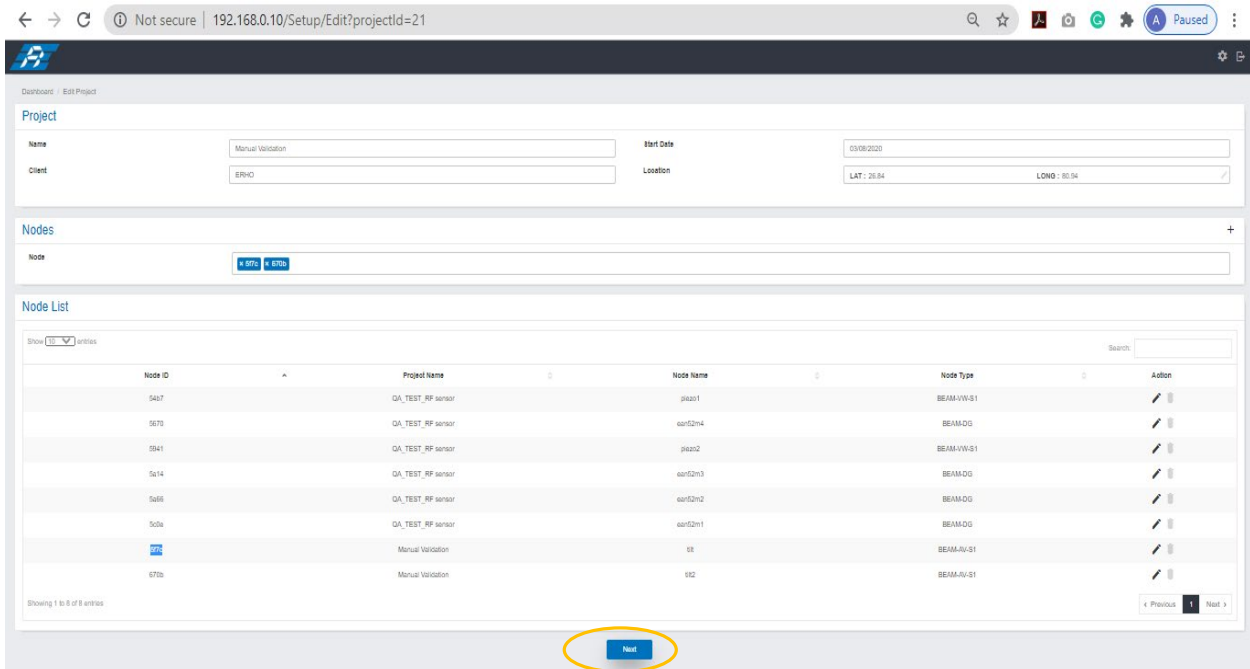

Figure 3-27
2. Once in edit mode, the list of nodes will appear as shown in figure 3-27. Click on the 'Next' button